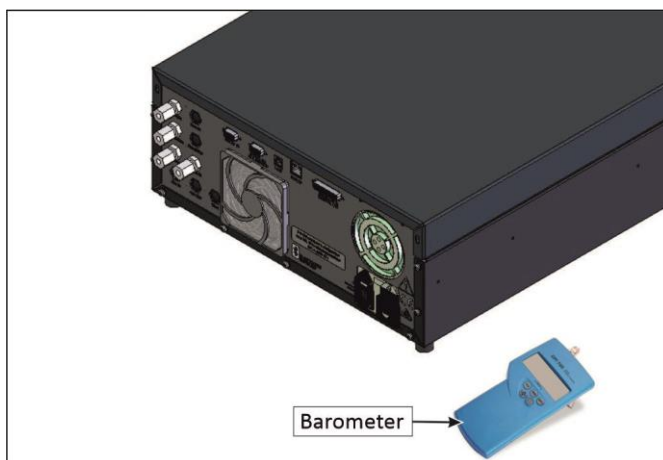

Figure 114 – Ambient Pressure Calibration Set-up
2. Refer to Figure 114. Disconnect any external tubing connected to the rear of the instrument.